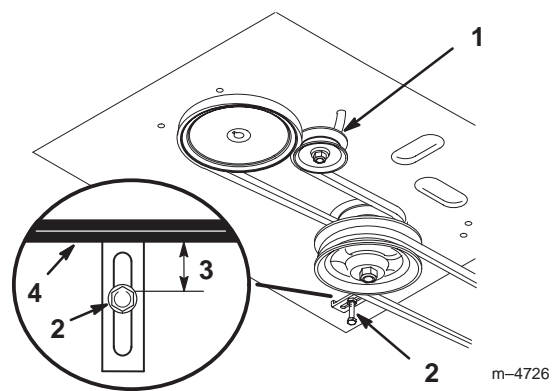

Figure 50
6. Install new belt around engine and drive pulleys (Fig. 50).
7. Slide idler pulley in engine frame to tension traction belt (Fig. 50).
9. Check the belt guide under the engine frame for proper adjustment (Fig. 50). The distance between the belt guide and mower belt should be 1-3/8 inch (35mm). Adjust as necessary. The disengaged belt should not drag or fall off pulley when guides are properly adjusted.
- Check the belt guide under the engine frame for proper adjustment (Fig. 50). The distance between the belt guide and mower belt should be 1-3/8 inch (35mm). Adjust as necessary. The disengaged belt should not drag or fall off pulley when guides are properly adjusted.